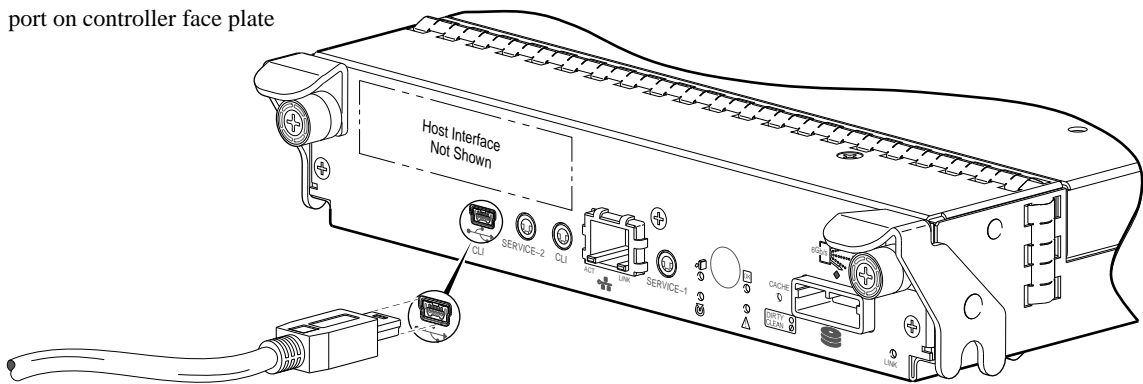

Figure 27 Connecting a USB cable to the CLI port
2. Use the provided USB cable to connect controller A to a USB port on a host computer. The USB mini 5 male connector plugs into the CLI port as shown in Figure 27 on page 46 (generic 694xx Series controller module shown).
If communication with the CLI is disrupted when using an out-of-band cable connection, communication can sometimes be restored by disconnecting and reattaching the mini-USB CLI cable as described in step 2 and Figure 27 on page 46.